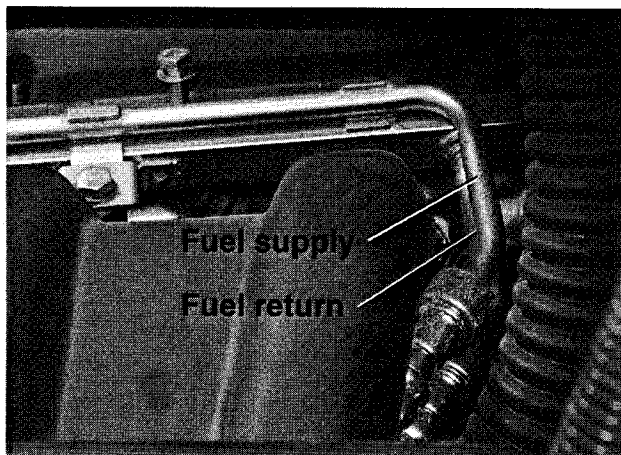

Fig. 31. Fuel lines at intake manifold on M52/S52 engine. Use BMW special tool 16 1 050 to release locking fittings at ends of fuel lines.
19. Working at rear of intake manifold, label and disconnect fuel supply and fuel return lines. Remove fuel line hold down bracket to free lines. See Fig. 31.